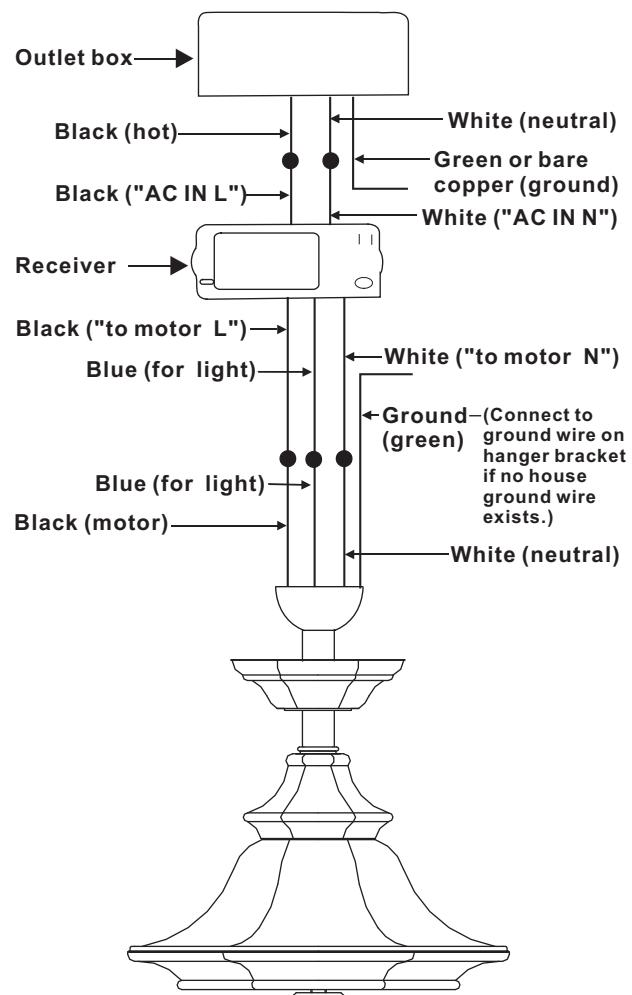

Figure 12
Step 2. (Figure 12) Motor to Receiver Electrical Connections: Connect the black wire from the fan to black wire marked "TO MOTOR L". Connect the white wire from the fan to the white wire marked "TO MOTOR N" from the receiver. Connect the blue wire from the fan to the blue wire marked "For Light" from the receiver. Secure the wire connections with the plastic wire nuts provided.
Step 3. (Figure 12) Receiver to House Supply Wires Electrical Connections: Connect the black (hot) wire from the ceiling to the black wire marked "AC in L" from the receiver. Connect the white(neutral) wire from the ceiling to the white wire marked "AC in N" from the Receiver. Secure the wire connections with the plastic wire nuts provided.
Step 4. (Figure 12) If your outlet box has a ground wire (green or bare copper) connect it to the fan ground wires; otherwise connect the hanging bracket ground wire to the mounting bracket. Secure the wire connection with a plastic nut provided. After connecting the wires, spread them apart so that the green and white wires are on one side of the outlet box and black and blue wires are on the other side. Carefully tuck the wire connections up into the outlet box.